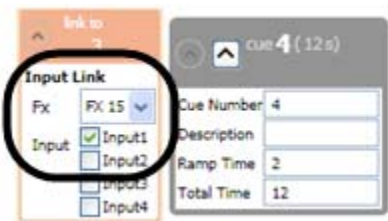

Figure 248
3. The new link will appear in the left margin of the **Cue Grid**. Select the Stagehand FX and the input that should trigger the **Child Cue** (Figure 248).